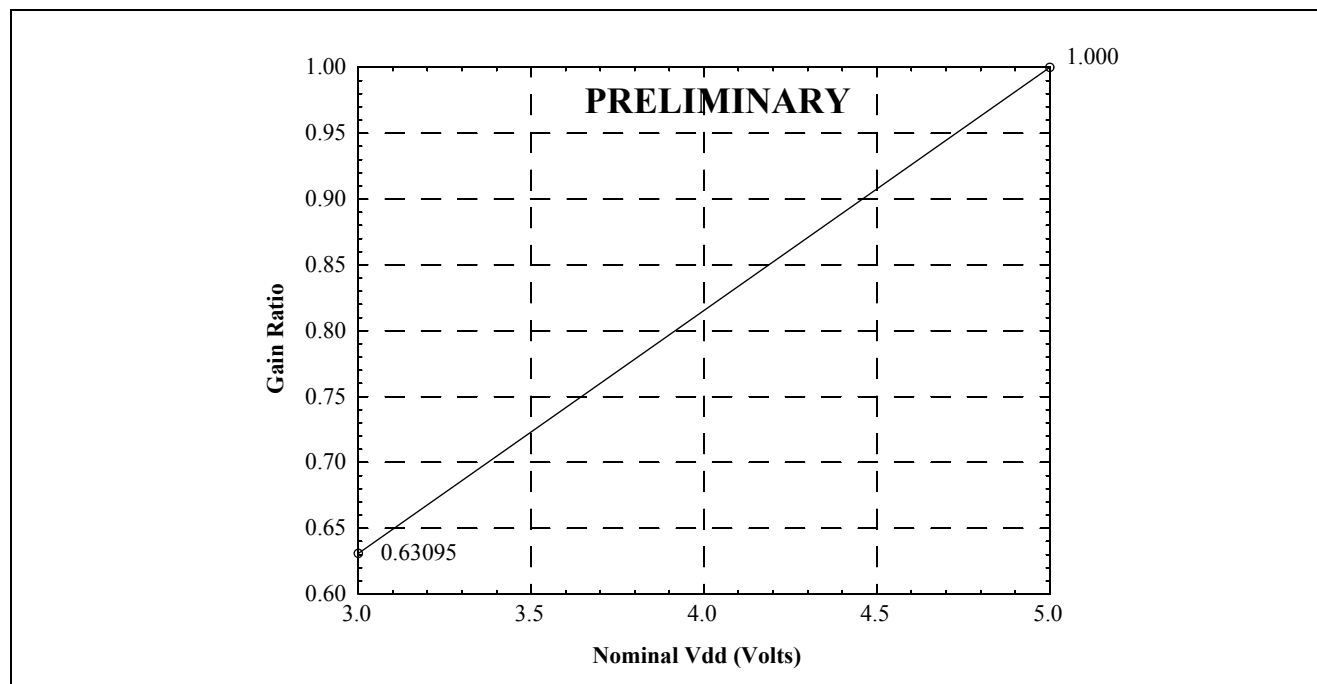

Figure 9 - GS1 and GS2 Gain Ratios as a Function of Nominal Vdd
The MT88E46 is designed to operate from a fixed voltage power supply between 3 and 5 V nominal. A $\pm 10\%$ variation from the nominal voltage is allowed. Its FSK and CAS reject levels are proportional to Vdd. When operated at Vdd equals 3 V $\pm 10\%$, to keep the FSK and CAS reject levels as at 5 V $\pm 10\%$, and for optimal speech immunity, the GS1 and GS2 op-amp gains should be reduced from those of 5V. Gains for nominal Vdd's between 3 and 5 V can be obtained by interpolation between the 3 V and 5 V values shown in Figure 9.
- For the desired nominal Vdd, use Figure 9 to calculate approximate Av.